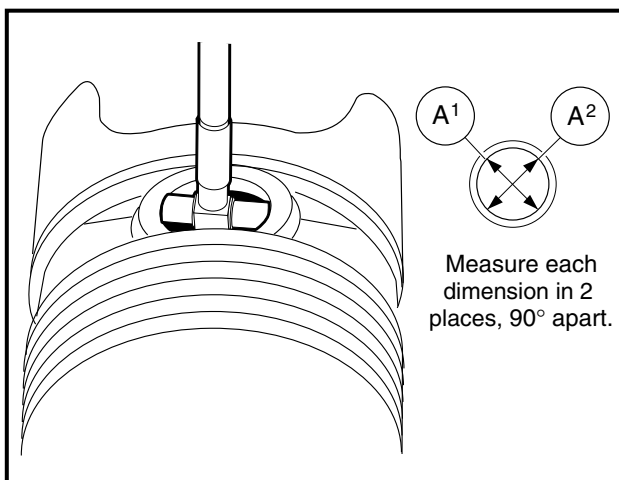

Figure 2-50 Measure I.D. of Piston Pin Hole
3. Use an inside micrometer or telescoping gauge to measure the inside diameter of the piston pin hole in the piston at several points (**Figure 2-50, Page 2-24**).